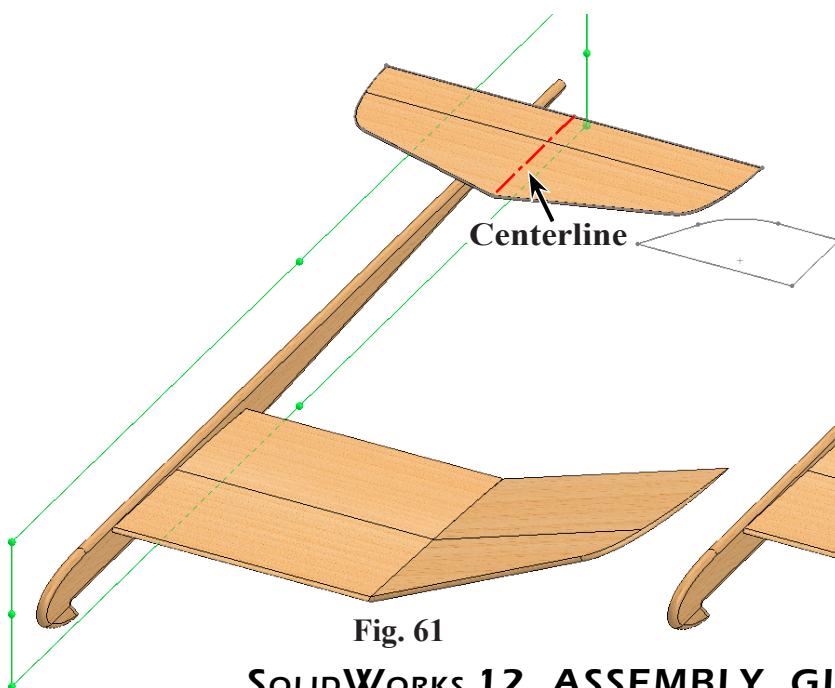

Fig. 61
Step 4. Click the **Centerline of the H Stab** in the graphics area, **Fig. 61**.